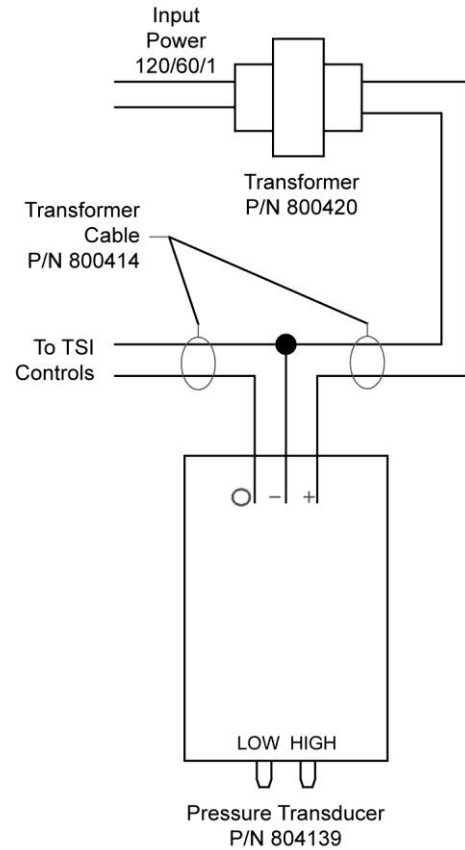

Figure 5: Transducer Wiring
- Refer to the wiring diagram for proper transducer wiring (Figure 5). The cable is terminated at the pressure transducer and at the TSI controller or monitor.
Wire the transducer to the FLOW INPUT terminals on the TSI controller, per Figure 5. Refer to the Installation Instructions for the TSI controller to determine the correct terminals.